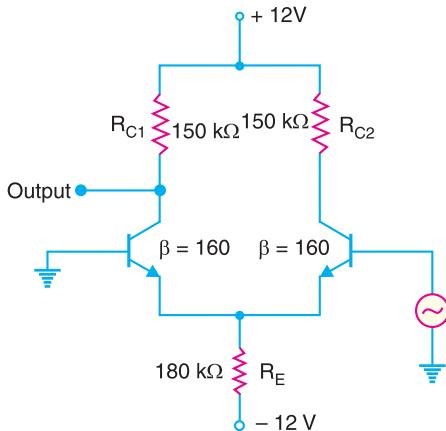

Fig. 25.100
6. For the circuit shown in Fig. 25.100, determine (i) common-mode voltage gain (ii) differential-mode voltage gain (iii) CMRR. (i) 0.42 (ii) 90.6 (iii) 216